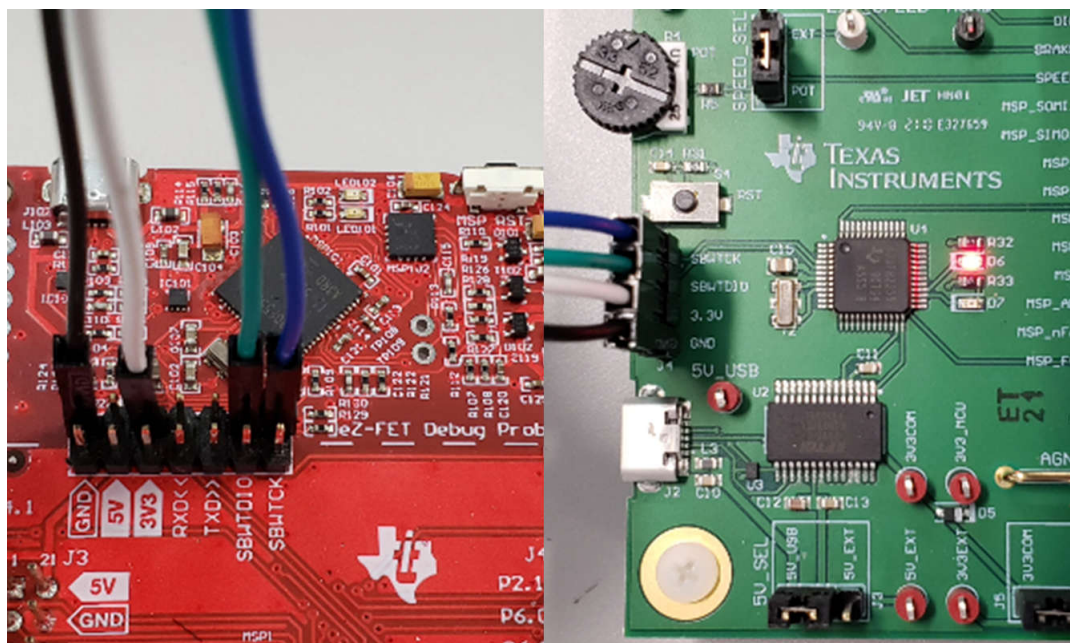

Figure 3-3. MSP430 LaunchPad eZ-FET Probe Connected to MCF8315RRYEVM
2. Connect the top pins on the eZ-FET side of the LaunchPad of the GND, 3V3, SBWTDIO, and SBWTDIO signals to the respective pins on J4 of the MCF8315RRYEVM as shown in Table 3-1 and Figure 3-3.